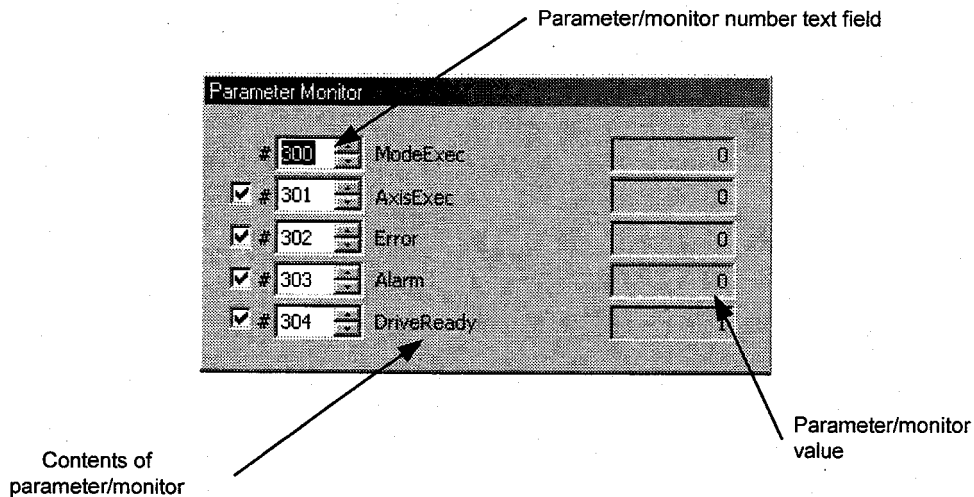

Figure 7.10 "Parameter Monitor" dialog box
(1) Parameter/monitor
In the "Terminal" menu, click "*Parameter/Monitor (M)*" under "Monitor" to display the "Parameter/Monitor" dialog box (see Figure 7.10).